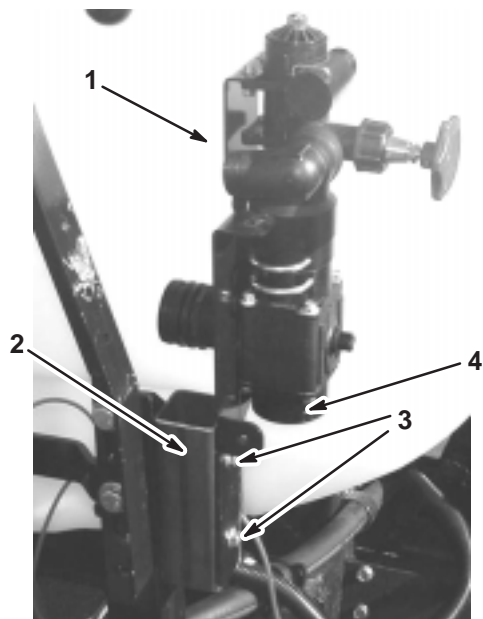

Figure 8
1. Look in the opening under the control valve and ensure that the opening in the white ball valve is open toward the bottom (Fig. 8).
3. Install the control valve to the boom frame (Fig. 8), using a spacer, 2 flange-head bolts (5/16 x 3 inches), 2 washers (3/8 inch), and 2 flange nuts (5/16 inch).